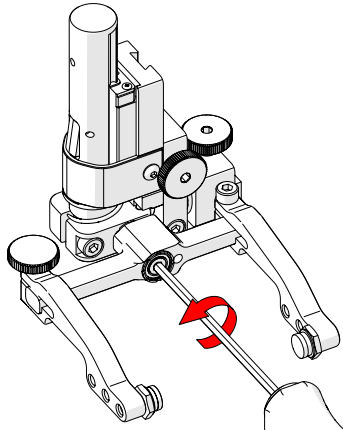

Fig. 121 - Unscrew yoke pivot screw
2. Using the supplied 3 mm hex driver (Fig. 40), unscrew the yoke pivot screw and remove the yoke (Fig. 121).